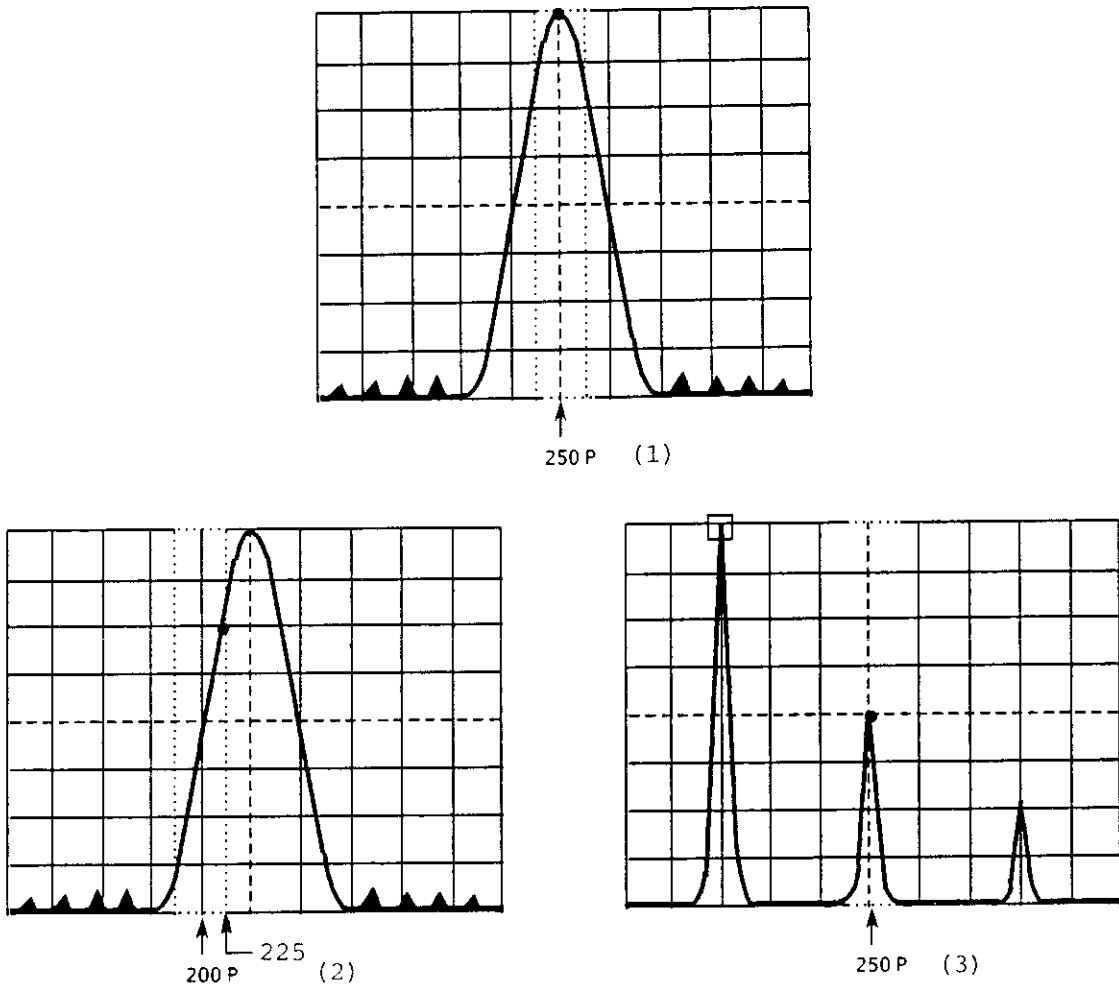

Fig. 11-2 Specifying Marker
Specify measurement point 250 in WIDE ZONE (Fig. 11-2(1)).
If the specification on program line 30 in the above example 1 is changed to 200, the marker point is moved automatically to the maximum level point 225 (Fig. 11-2(2)).
(2) Reading current marker point on Fig. 11-2(3) after executing NEXT PEAK.